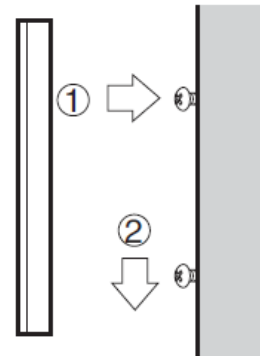

Figure 52: Attaching Remote Temperature Sensor
6. Place the sensor casing directly over both the top and bottom screws (see (1) on Figure 52).
- Slide the sensor housing downward on top of the two (2) screws so that screw head fits snugly into the screw anchor at the back of the unit (see (2) on Figure 52).
To remove unit: Push unit in upward direction first so that screw heads disengage from the back anchor and then gently pull unit away from the screws (refer to Figure 52, on previous page).